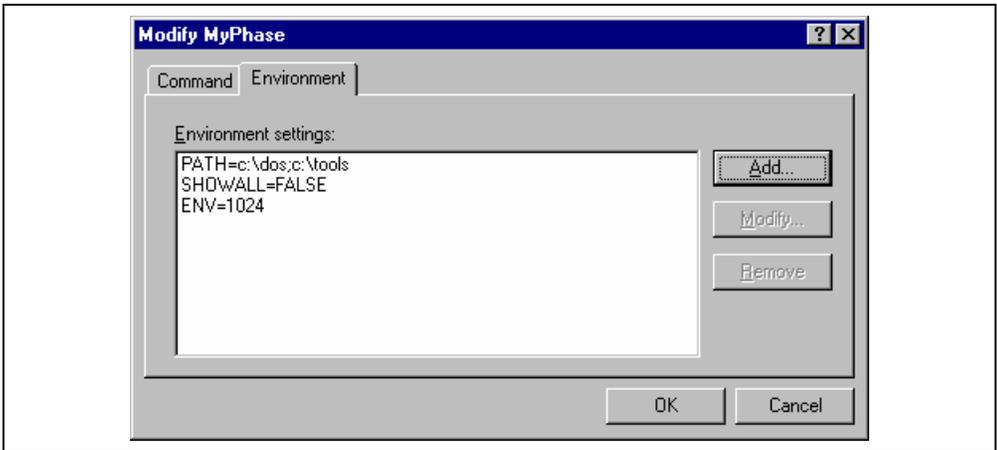

Figure 3.8: Modify Phase Dialog Environment Tab
6. Select the “Environment” tab (figure 3.8) to edit the environment settings for the phase.